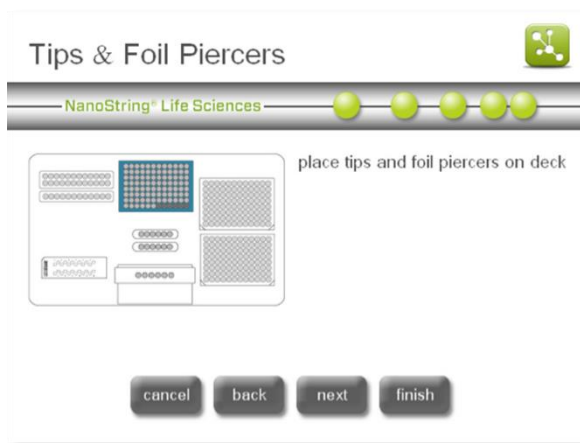
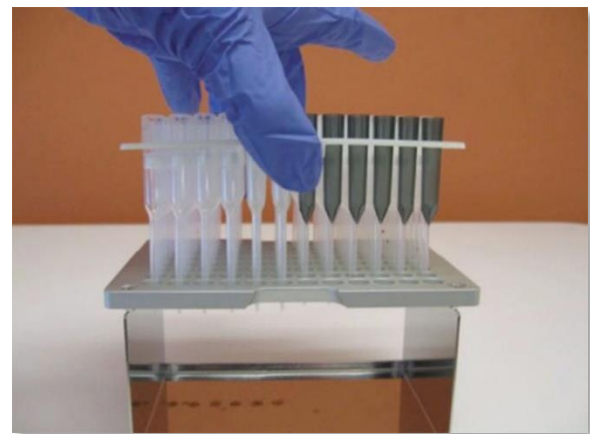

Figure 21: The 'Tips & Foil Piercers' screen.
Figure 22: Placing the tips and foil piercers into metal tip carrier.
7. The 'Tips & Foil Piercers' screen will appear (**Figure 21**). Remove the metal tip carrier from the Prep Station deck by lifting straight up. Place the tips and the foil piercers into the carrier. It is helpful to place the carrier at eye level to align the plastic tips in the carrier as shown in **Figure 22**. The shorter, dark grey foil piercers should be in the front as shown.